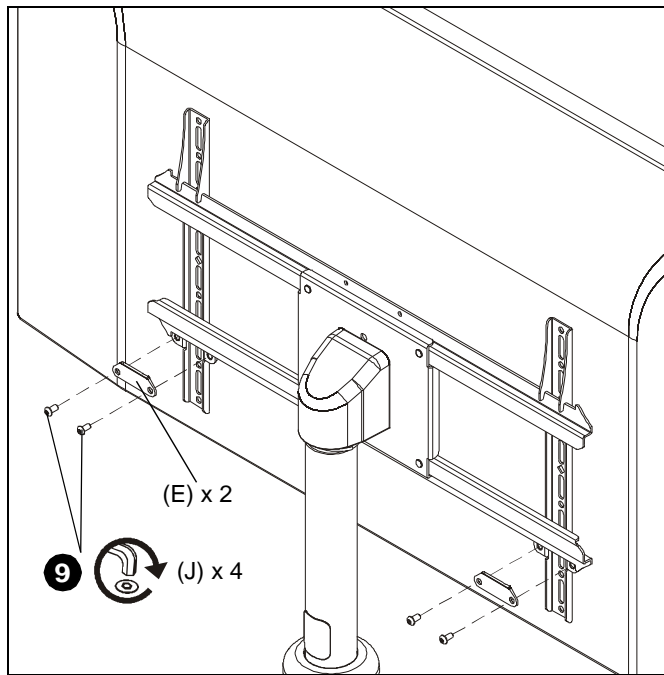

Figure 8
9. Use four 1/4-20 x 1/2" button head security cap screws (J) and two interface clamp brackets (E) to secure vertical interface brackets (C) to table stand interface (B). (See Figure 8)